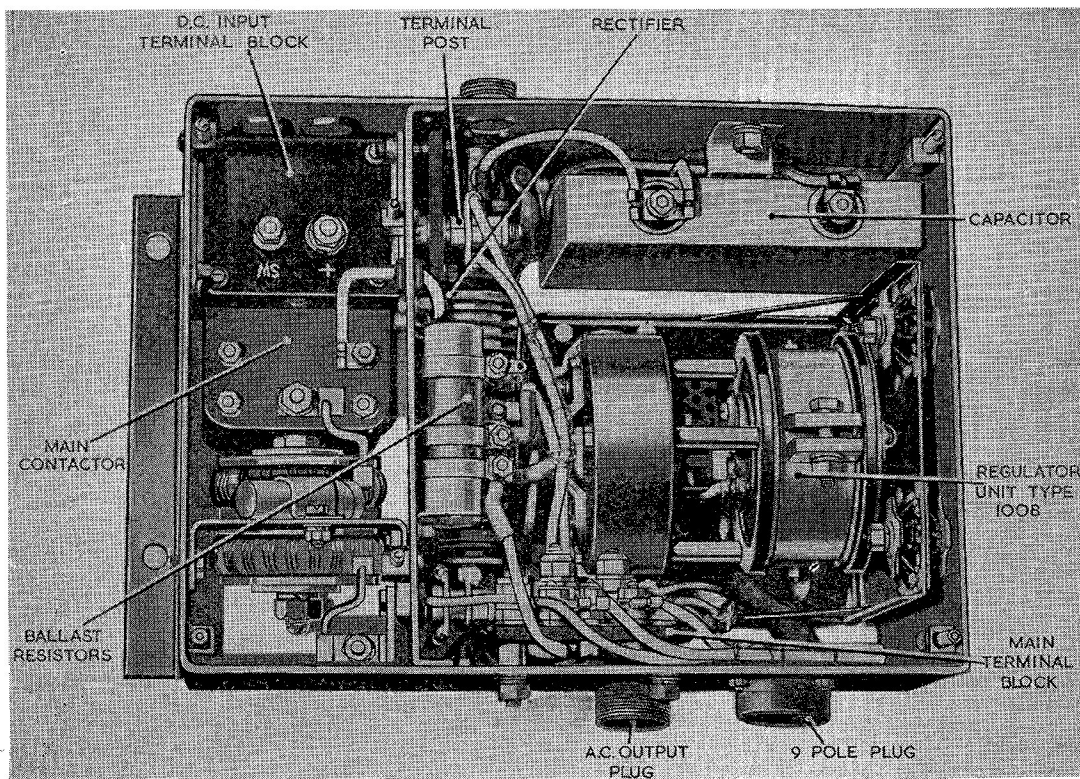

Fig. 2. Control panel with cover removed
2. The control panel (fig. 2) is housed in a sheet metal box. The d.c. positive supply enters through one side and is connected to a terminal marked + on a small